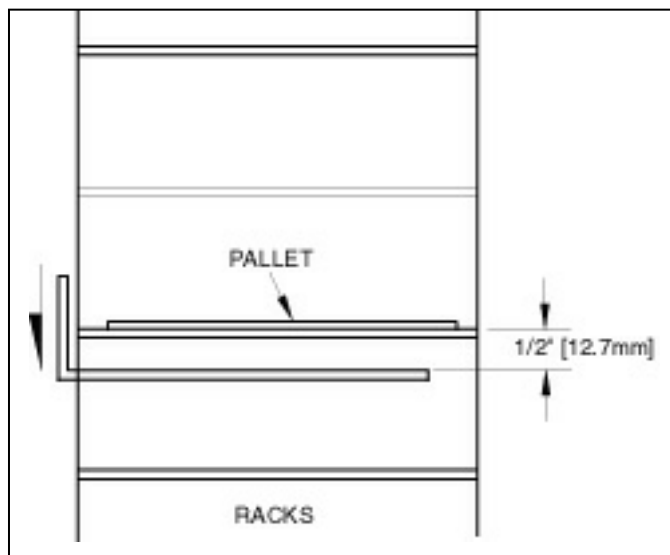

Figure 2.26 SWITCH LS-32 ADJUSTMENT.
- 2.2.5.7** Manually move the spade (see section 6.2) inside the rack bay. Then move spade up and down until bottom of pallet is 1/2" [12.7mm] above rack shelf (see figure 2.26). Then move cam until switch LS-32 is actuated (screen will indicate that switch has been tripped)